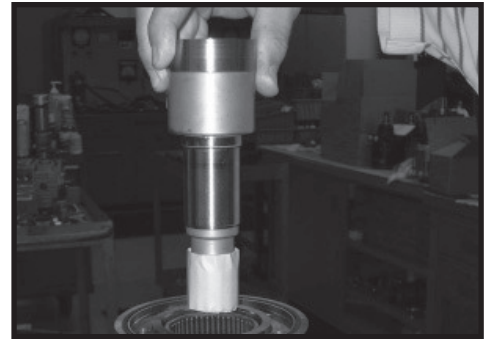

Figure 47
8. Be sure that a generous amount of clean corrosion resistant grease has been applied to the lower (outer) housing bearing/bushing (19). Install the coupling shaft (12) into housing (18), seating it against the thrust bearing (15) in TC, TS, TB and TE Series housings and against the second thrust washer (14) in TF, TL, TG and TH Series housings. SEE FIGURE 47.